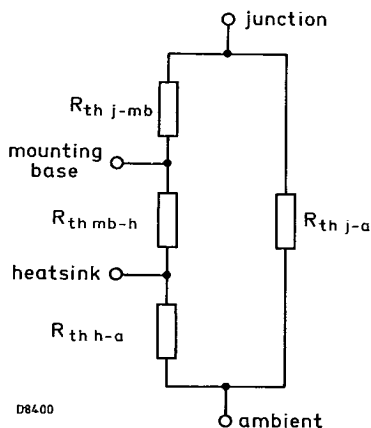

Fig. 4.
- a. The various components of junction temperature rise above ambient are illustrated in Fig. 4.